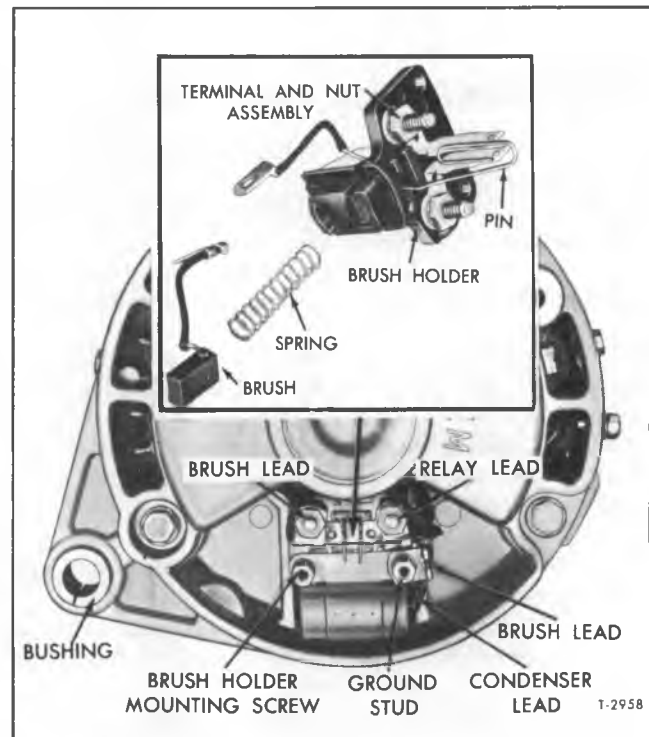

Fig. 3C--6.2" Series 2D Delcotron Brush Holder Assembly
2. Remove two screws securing the cover to the brush holder and remove cover (fig. 3C).